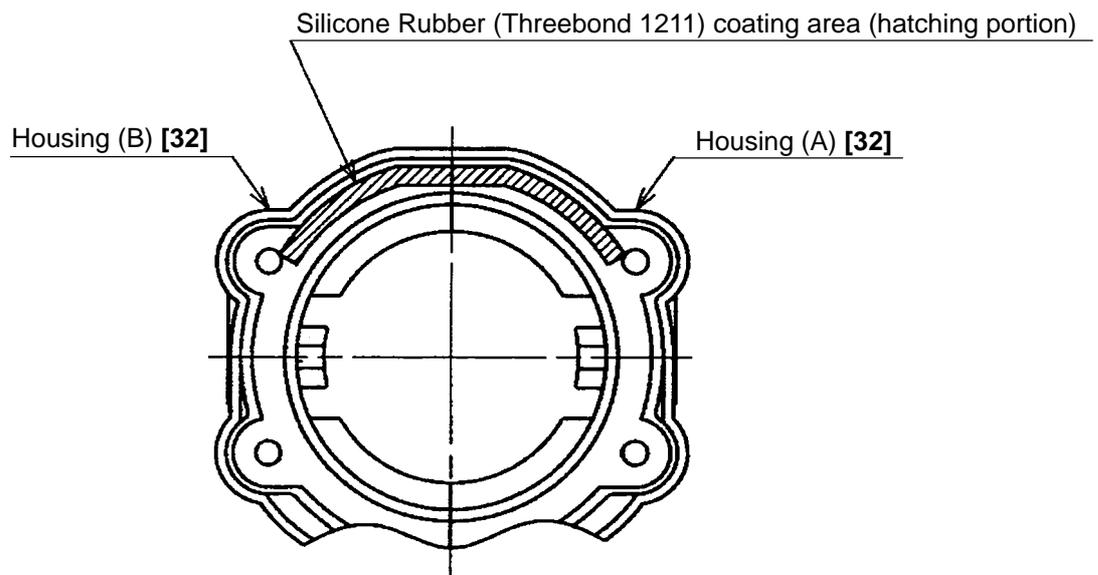

Fig. 7
- (d) Mount the hammer assembly onto the J-297 base for washer (S). With a hand press, push down the top of the Spindle [18] to compress the Spring [14]. On this condition, mount the Stopper [16] onto the spindle shaft and then release the hand press.
- (e) Mount the Ring Gear [21], Washer (C) [22], Ball Bearing [23], Inner Cover [24], Damper [25] and the Retaining Ring [26] to the above reassembly. Furthermore, mount the other mechanical parts and Anvil (B) [9], then the Hammer Case [7].
(4) Mounting the Gear Box Ass'y [1] to the housing
Coat Housing (A).(B) Set [32] with Silicon Rubber (THREEBOND 1211) as shown in Fig. 7. Mount the Gear Box Ass'y [1] so that the pinion press-fitted in the Motor [27] properly meshes with the Idler Gear Set [19]. Check that Anvil (B) [9] turns smoothly. If not, the gear meshes improperly. Check the meshing condition. Tighten the four Tapping Screws (W/Sp. Washer) D4 x 35 [6]. Wipe the Silicon Rubber protruded from the housing with a cloth.